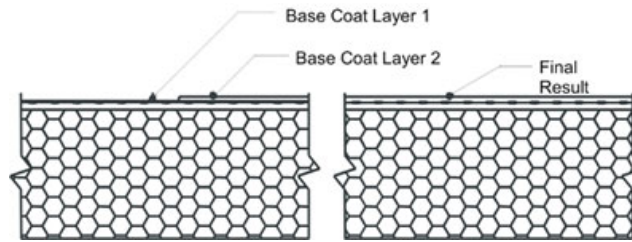

Figure 12
- a. The base coat shall be applied such that the resulting overall minimum base coat thickness is sufficient to **fully embed** the reinforcing mesh. The recommended method is to apply the base coat in two (2) passes.
- 3) Allow the base coat mixture to take up until firm to the touch. Trowel a second tight coat of the base coat mixture over the first coat to **fully cover** the reinforcing mesh - Figure 12. The result should be such that the reinforcing mesh is approximately centered within the base coat thickness. Do not allow the first pass to completely dry prior to the second pass application or an excessive amount of base coat mixture will be necessary to fully coat the wall surface.